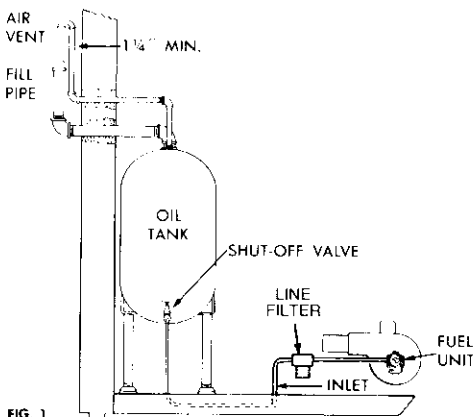

FIG. 1
All waste oil pumps are to be connected one pipe. The system may return excess fluid to tank after the fluid goes to a reservoir or siphon pick-up per typical tank installation figure. 1/2" or 3/4" line may be used with the following restrictions applying to the horizontal run (H) allowed: